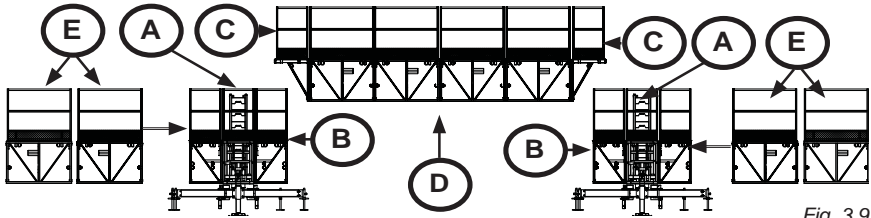

Fig. 3.9
- 3- Raise the motorized unit ("A", fig. 3.9) by 2 rungs [20"(50 cm)] to facilitate the installation of the first cantilever bridge.
- 4- Install a standard 30" (76 cm) bridge as a cantilever bridge facing the area where the bearing bridge will be installed ("B", fig. 3.9). **The upper corner of the diagonal brace on the cantilever bridge should point outwards**, as shown in fig. 3.10 on p. 24.
- 5- At base level, assemble the complete bearing bridge structure ("D", fig. 3.9) using standard 60" (1,5 m) or 30" (76 cm) bridges. Install 30" (76 cm) bearing bridge adapters at both ends of the bearing bridge structure ("C", fig. 3.9).
- 10- Install all other cantilever bridges (“E”, fig. 3.9) on the ends of the motorized units opposite to the bearing bridge structure. In a bearing bridge setup (multiple masts), it is **mandatory** to install any additional cantilever bridge **after** the bearing bridge has been installed to avoid throwing the structure off balance.
- 3- First dismantle any cantilever bridges added to the structure (see step 10 of the installation instructions, on p. 24), beginning with those on the outer ends of the structure (“E”, fig. 3.9). Unhook the bearing bridge safety chains and unplug the inclinometers. Using a forklift, a crane or any other lifting device, slightly raise the bearing bridge and lower it on the ground to dismantle it.